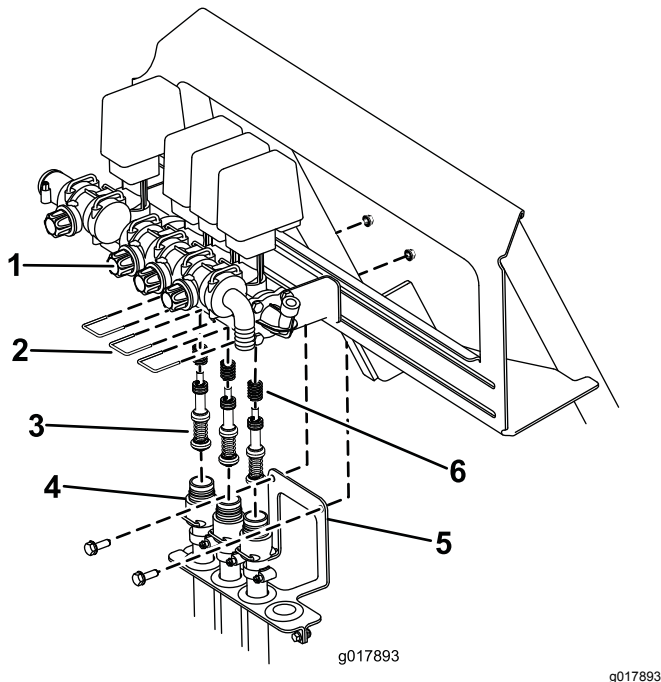

Figure 70
- B. Remove the 3 forks securing the valve seats to the valve assembly (Figure 70).
- C. Remove the 2 screws and nuts securing the hose-loom bracket to the sprayer frame (Figure 70). Lower the hoses away from the valve assembly.
- D. Using a 3 mm Allen wrench, remove the screws securing the piston assemblies in the valve assembly. Make sure to account for the springs in the valve (Figure 70).